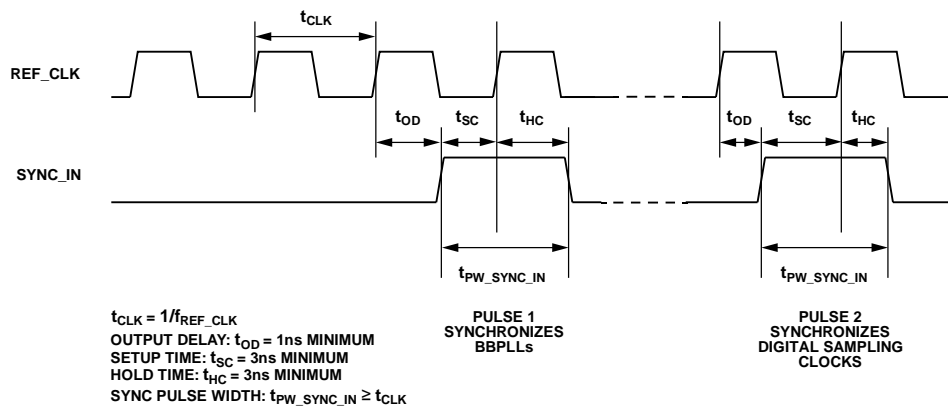
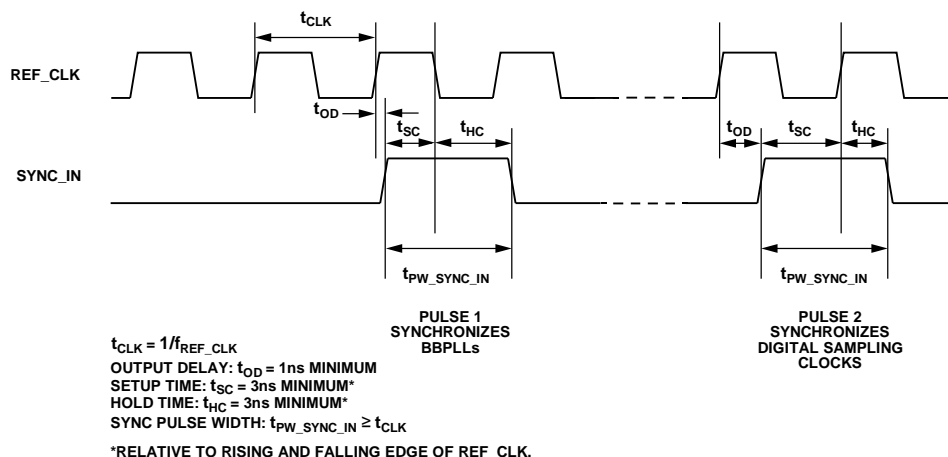
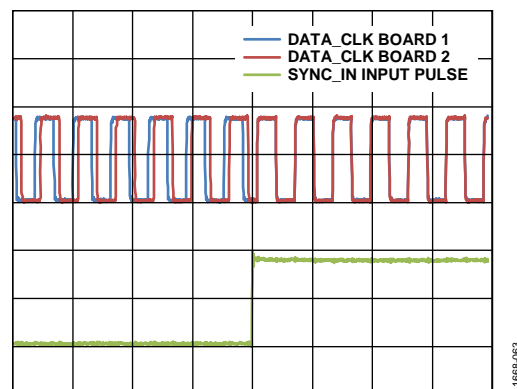

Figure 60. AD9361 BB Multichip Synchronization SYNC_IN Pulse Timing (BBPLL Internal REF_CLK Set to 1×)
Figure 61. AD9361 BB Multichip Synchronization SYNC_IN Pulse Timing (BBPLL internal REF_CLK Set to 2×)
Figure 62. Clock Signals of AD9361 IC1 and IC2 Before and After Second SYNC_IN Pulse (Initial Phase Random)
5. Input a rising-edge pulse to the SYNC_IN pin of each device. The timing requirements of this signal are illustrated in Figure 60 for the case where the internal BBPLL REF_CLK is a buffered version of the external REF_CLK and in Figure 61 for the case where the internal BBPLL REF_CLK is 2× the external REF_CLK. **MCS** **完全相同的**
Data synchronization can be verified by observing the DATA_CLK signal of each chip simultaneously using an oscilloscope. The waveforms will overlap after successfully completing the sync procedure. Similarly, the CLK_OUT pin on each device (when enabled) can be monitored to determine if the ADC clocks are synchronized. Figure 62 illustrates the DATA_CLK signals of two devices before and after the second SYNC_IN pulse occurs. Note that the SYNC_IN pulse is much longer in duration than the DATA_CLK signals in this example. As long as the setup and hold times meet the requirements listed in Figure 60 and Figure 61, this is an acceptable combination because the SYNC_IN input is edge detected by the REF_CLK reference.